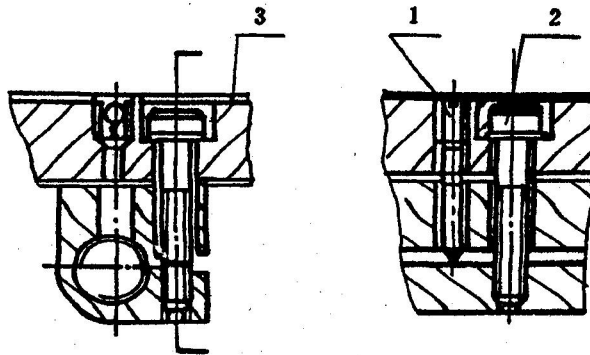

Fig.11-7 Cross slide screw nut adjustment diagram
The cross slide is driven by the split nut which moves with rotation of lead screw and is used to eliminate transmission clearance by adjusting the pitch diameter fit. When adjusting loosen the stop screw (1) first and then adjust screw (2) till the clearance is removed. After completion tighten screw (1) again and cover the dust lid (3). See Fig.11-7.